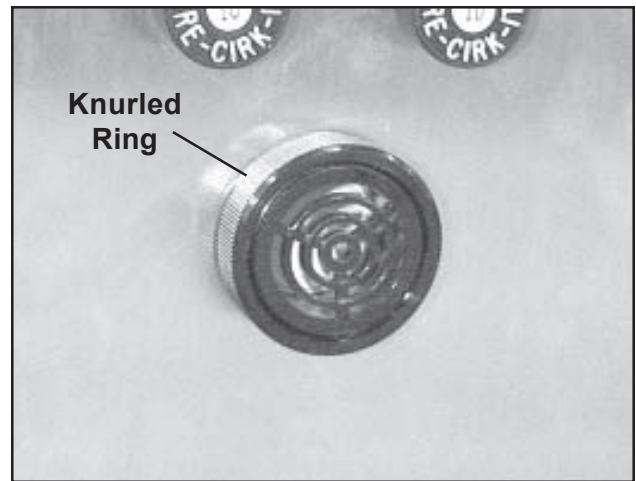

Figure 134. Outside View - Audible Alarm
7. Rotate the knurled ring on the audible alarm counter-clockwise until it comes off (Figure 134).
1. Unscrew the knurled ring from the new audible alarm (Figure 134).